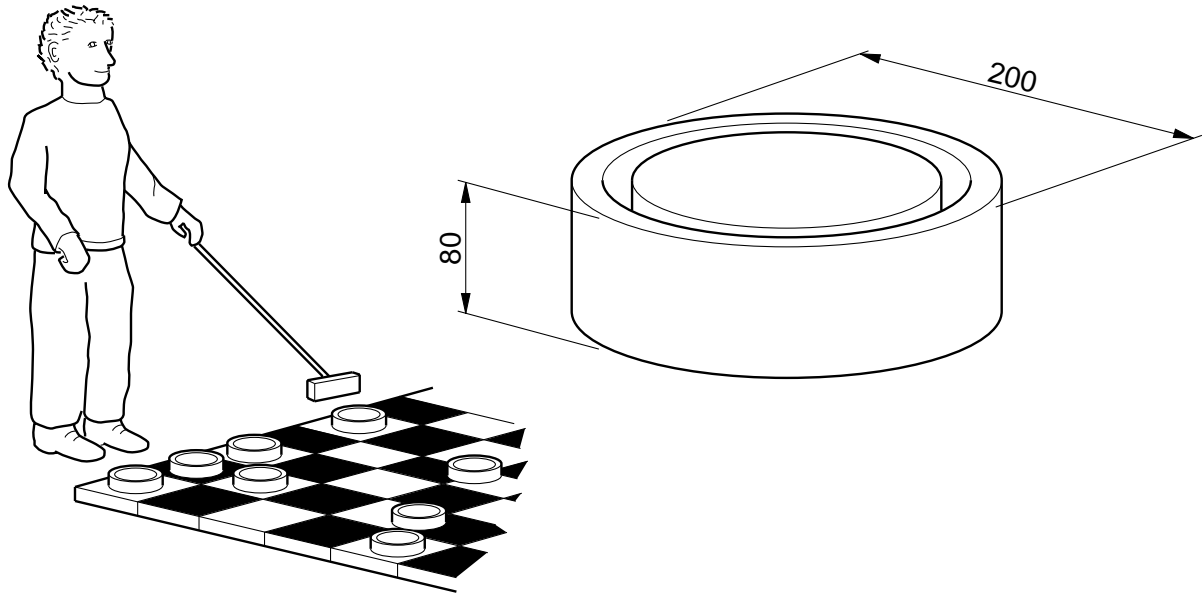

Fig. 7
13 Fig. 7 shows the design for a playing piece which is part of an outdoor game.
- (d) The shape of the playing piece shown in Fig. 7 may be difficult to manufacture by some processes. Using a sketch, explain how the shape could be modified to ease manufacture and reduce possible faults. [4]